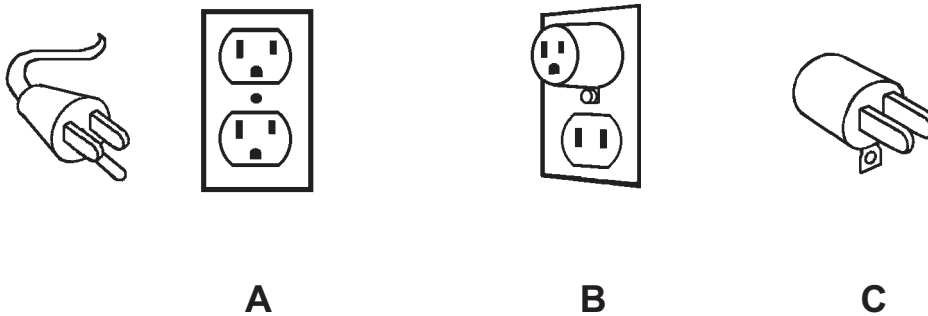

Figure 1
- *This appliance is for use on a nominal 120 V circuit, and has a grounding plug that looks like the plug (B, Fig. 1). A temporary adapter (B and C) may be used to connect this plug to a 2-pole receptacle (B), if a properly grounded outlet is not available. The temporary adapter should be used only until a properly grounded outlet (A) can be installed by a qualified electrician. The green-colored rigid ear, tab, or the like extending from the adapter must be connected to a permanent ground such as a properly grounded outlet box cover. Whenever the adapter is used, it must be held in place by a metal screw. Grounding adapters are not approved for use in Canada.*